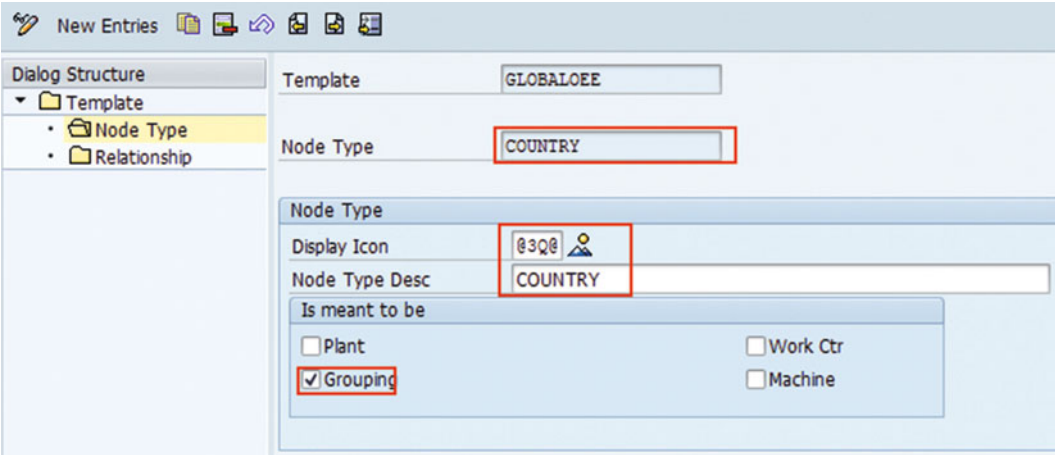

Figure 3-23. Configure global hierarchy template with country node type (Level 2)
- 4. Follow steps 1 to 3 to create other child node types like region, country, and plant (refer to Figures 3-23, 3-24, and 3-25).